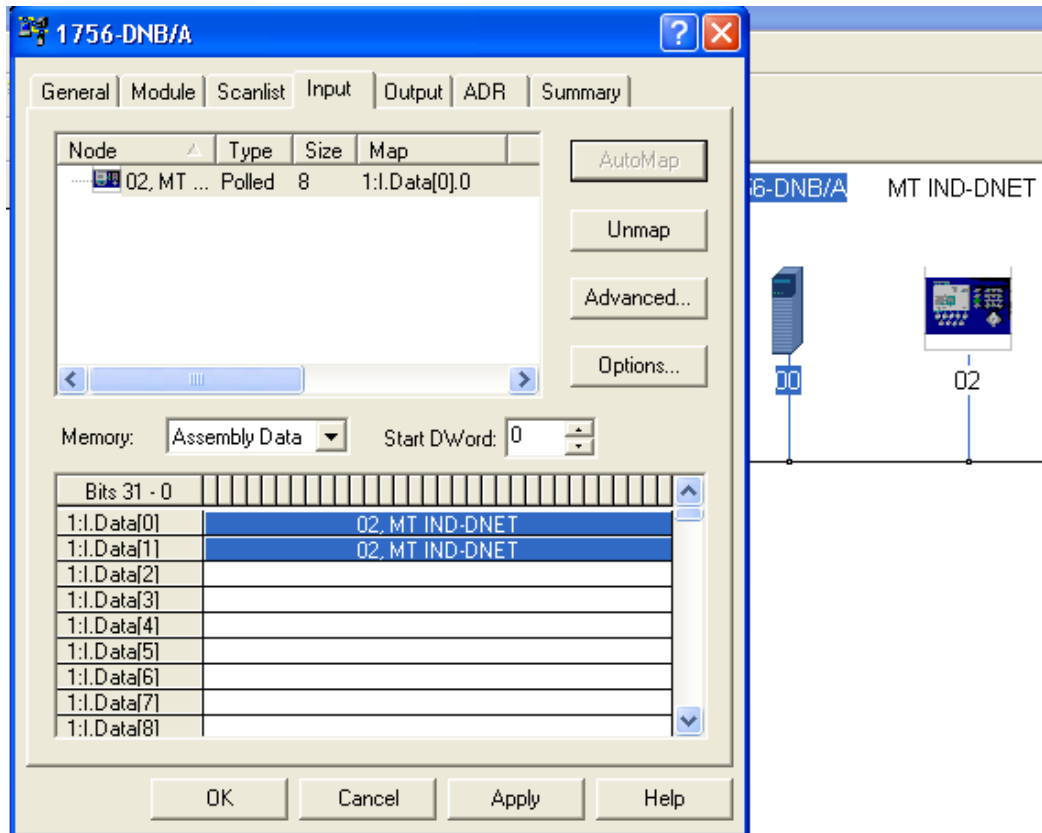
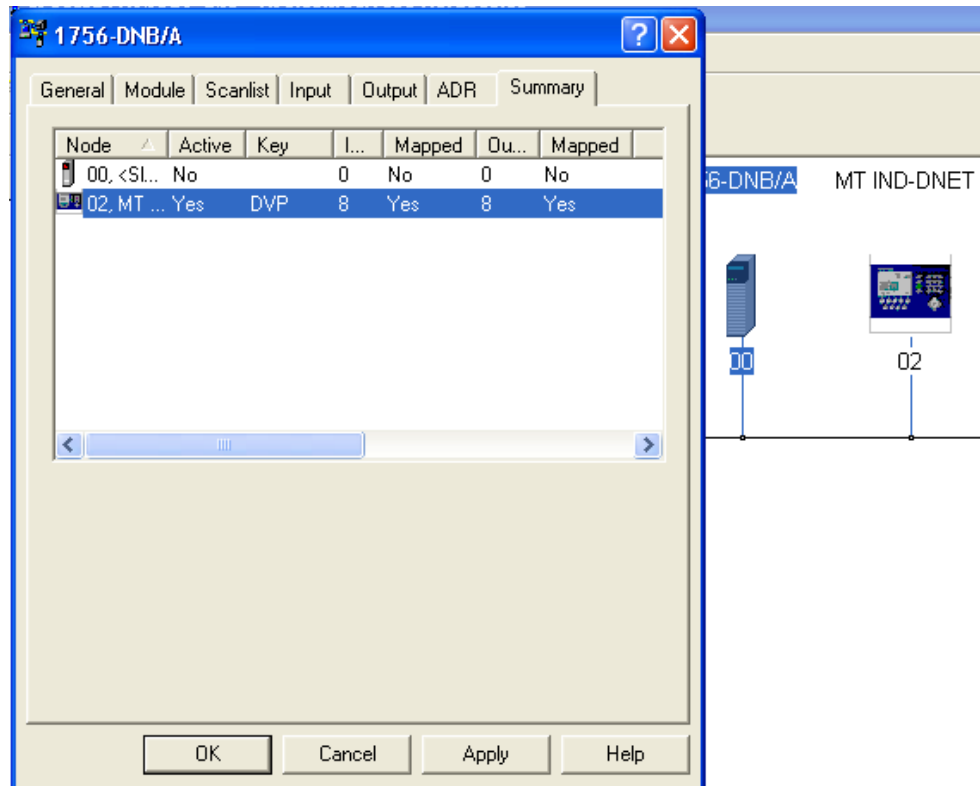

Figure 5-22: IND Terminal Mapping
Figure 5-23: Summary Tab
- Once the IND Terminal has been added to the scanlist, access the Properties dialog to verify its I/O mapping (Figure 5-22 and Figure 5-23) within the scanner card. Note that auto or manual mapping can be used. Consult the master's documentation for advance I/O mapping options. If manual mapping is used. Be sure to start with an unused section of memory for offset.